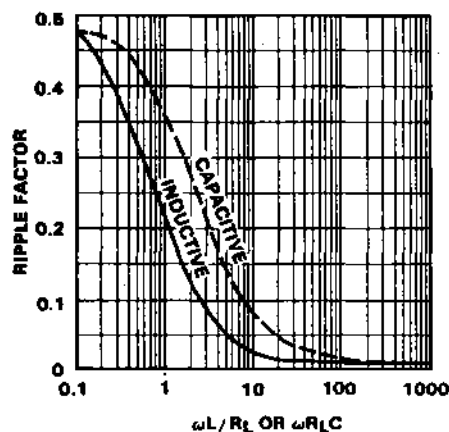
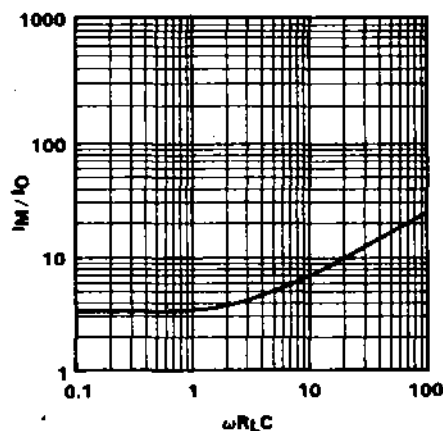
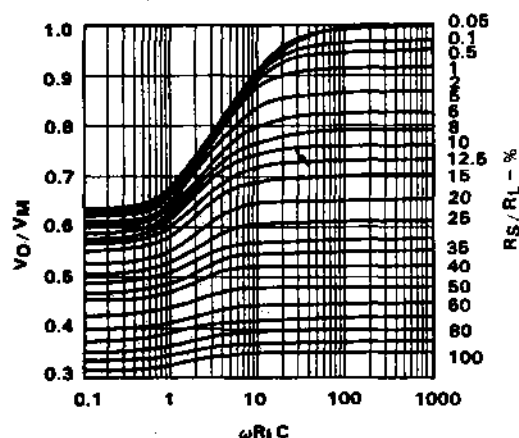

Fig. 4-9. Filter Product
Fig. 4-10. Peak-to-DC Ratio
Fig. 4-11. Load Regulation
There are two interesting features. Efficiency has doubled, as can be expected when doubling the number of rectifiers. In addition, the ripple factor has decreased from 121% to 48% in comparison with the half-wave circuit. Even with ripple reduction, a 48% factor is normally too high to be useful and must be filtered. Figure 4-9 is the filter product plot for both capacitive and inductive filters, assuming $R_S \ll R_L$. High peak currents are always associated with capacitive filters and Figure 4-10 plots the ratio of peak-to-dc current as a function of the filter product. The relationship between the filter product, the R_S/R_L ratio and the dc output-to-peak input voltage is given in Figure 4-11 for the capacitive input filter. Load regulation may also be determined from Figure 4-11 by using the high and low limits for R_L .
Step 1 Find the filter product from Figure 4-9
using the filter values from Figure 4-11.
$$V_{pk} = 0.7 + \frac{.20}{0.82} \text{ (intersection of } 5\% \frac{R_S}{R_L} \text{ and } \omega R_L C = 10 \text{ from Figure 4-11.)}$$
Step 6 Check peak diode current from Figure 4-10. For this example at a filter product of 10, the peak current is seven times the dc current, or 7 A.